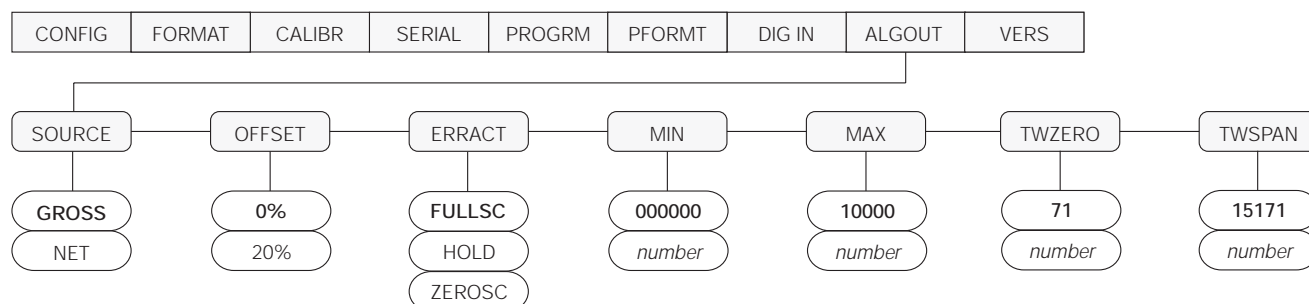

Figure 7-5. Analog Output Menu
- Enter setup mode and go to the ALGOUT menu (see Figure 7-5):